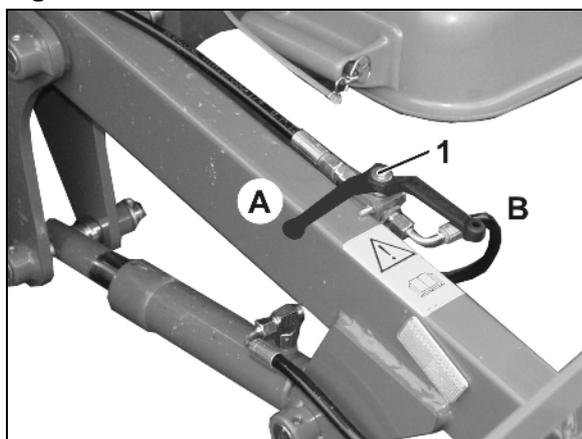

Fig. 117
7. Move the stop tap (Fig. 117/1) to position **B**.